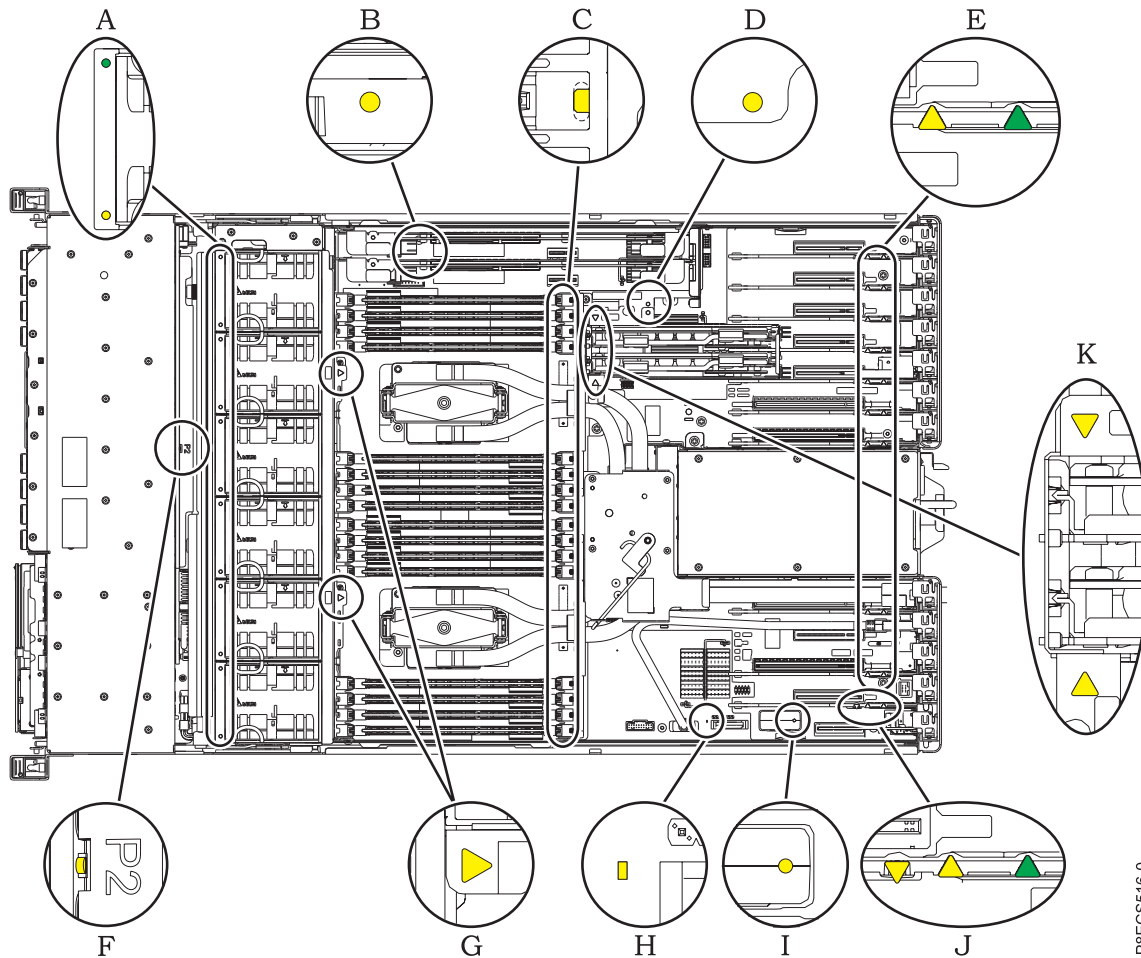

Figure 40. Service indicator LEDs
7. Look for the amber LED (D) of the system backplane. See Figure 40 on page 47.